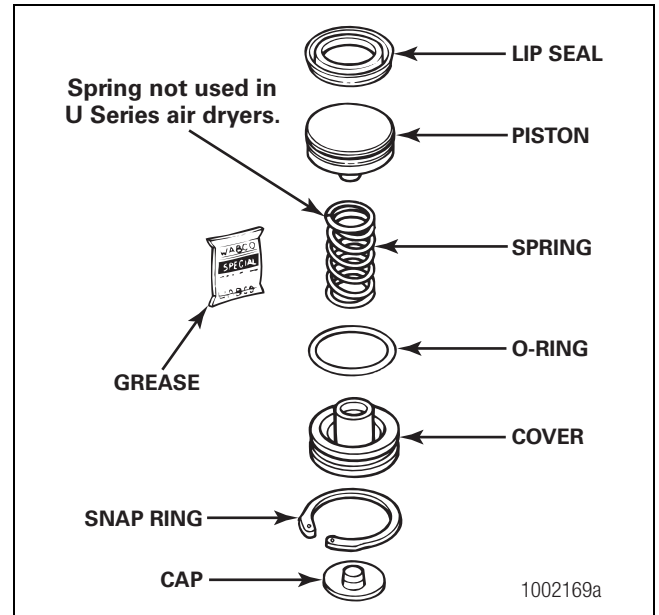

Figure 2.7
1. Review Figure 2.7 to ensure you have all of the parts required to replace the turbo cut-off valve.